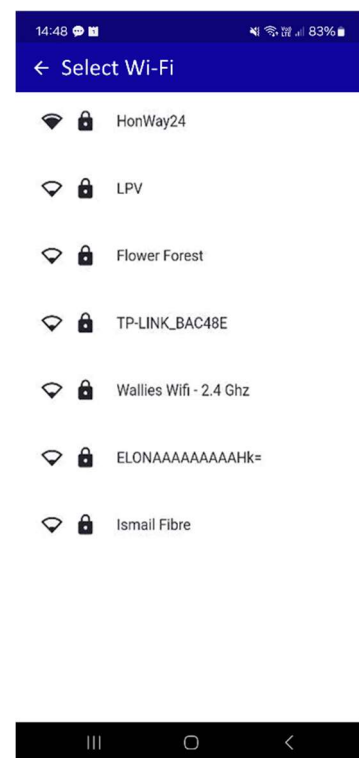

Figure A3 Select Wi-Fi
7. The application searches for the available networks and displays them in a list (**Figure A3**).